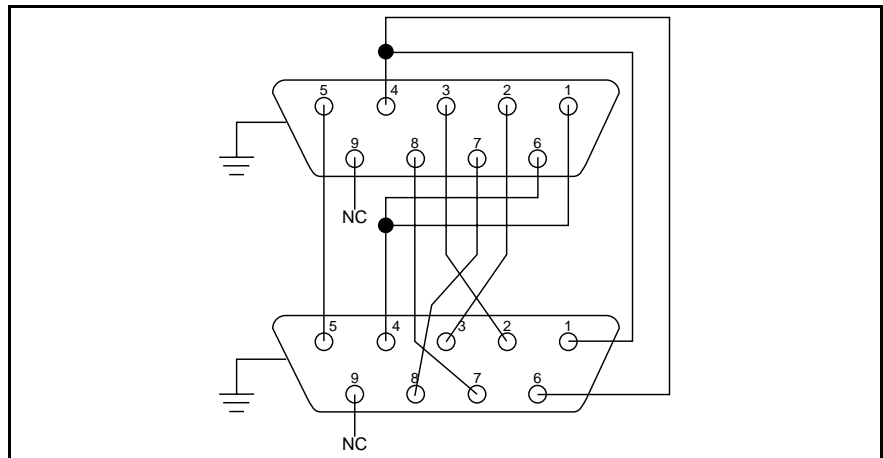

Figure C-2. Pinout Diagram of GPIB-232CT-A 9-Pin Connector, female-female, null modem cable
Step 9. Using a 9-pin cable, connect the GPIB-232CT-A to the controller's COM 1. See Figure C-2 for a pinout diagram of the GPIB-232CT-A 9-pin connector, female-female, null modem cable.